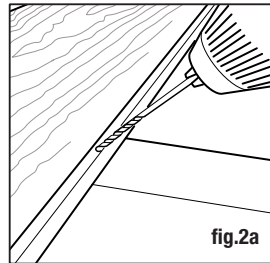

fig.2a
- OR:** Start installing from the center of the board and work out toward the ends of the board. Do not install by fastening each end first and working toward the middle. To keep the interior boards from moving over time, we recommend pinning the boards at the center of their length using a #8, 2" stainless steel screw. This holds the deck board in place at the center of each board and allows the decking to expand/contract at the ends. Pre-drill in the groove of the deck board with an 1/8" drill bit (fig. 2a). Drive screw into the groove so it's flush with the bottom of the groove (fig. 2b). This will allow you to properly fit a Stowaway hidden fastener into the groove.